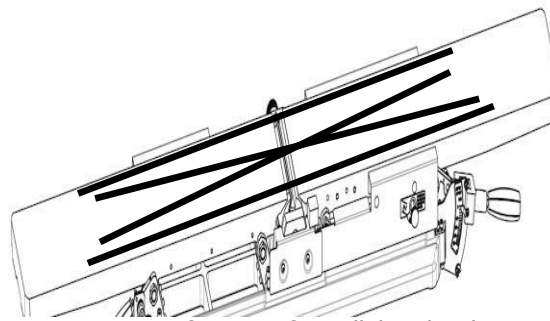

Figure 33: Verification of parallelism/coplanar
**STEP 6:** Remove infeed table "depth stop release knob" and infeed table cover, loosen set screws and place straight edge across infeed tables as in Fig. 33, and adjust eccentric bushings under infeed table (as in Step 4) for outfeed table.
**STEP 7:** Verify parallelism in each position as in Fig. 33 confirm eccentric bushings are snug and tighten cap screws and then set screws in eccentric bushings on infeed table.